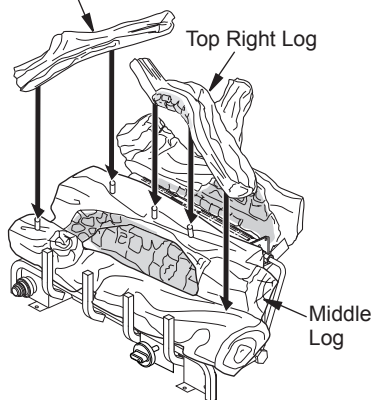

Figure 20 - Installing Top Logs
- Place top right log onto pins of middle log (see Figure 20). Bottom of top log will rest on middle log as shown in Figures 20 and 21.
- Place top left log on middle log as shown in Figure 20.